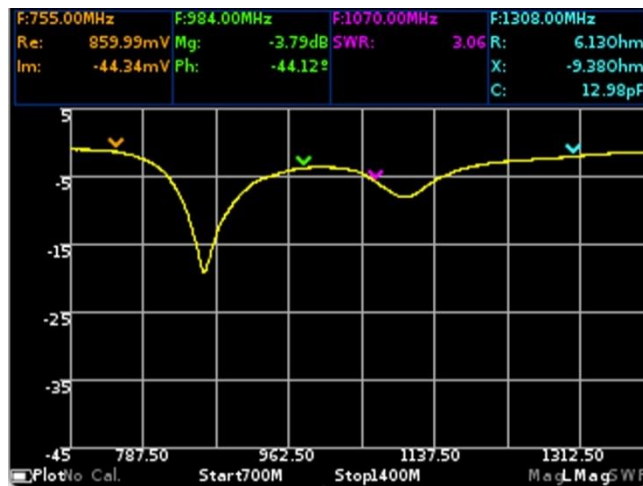

Figure 10.6 – Plot of the magnitude in a logarithmic scale
10.5.1. This plot shows the dependence of the magnitude of RC on the frequency in a logarithmic scale, in dB (Figure 10.6.). On the device screen, the plot is displayed as **LMag**. Enabling or disabling the display of this plot on the screen and its setting is performed as described in par. 9.3.
In our example, in figure 10.6, a GSM antenna with an operating frequency of 900 MHz is being tested. Above the magnitude plot placed on a logarithmic grid, the measurement values of the four included markers are displayed in specified units.